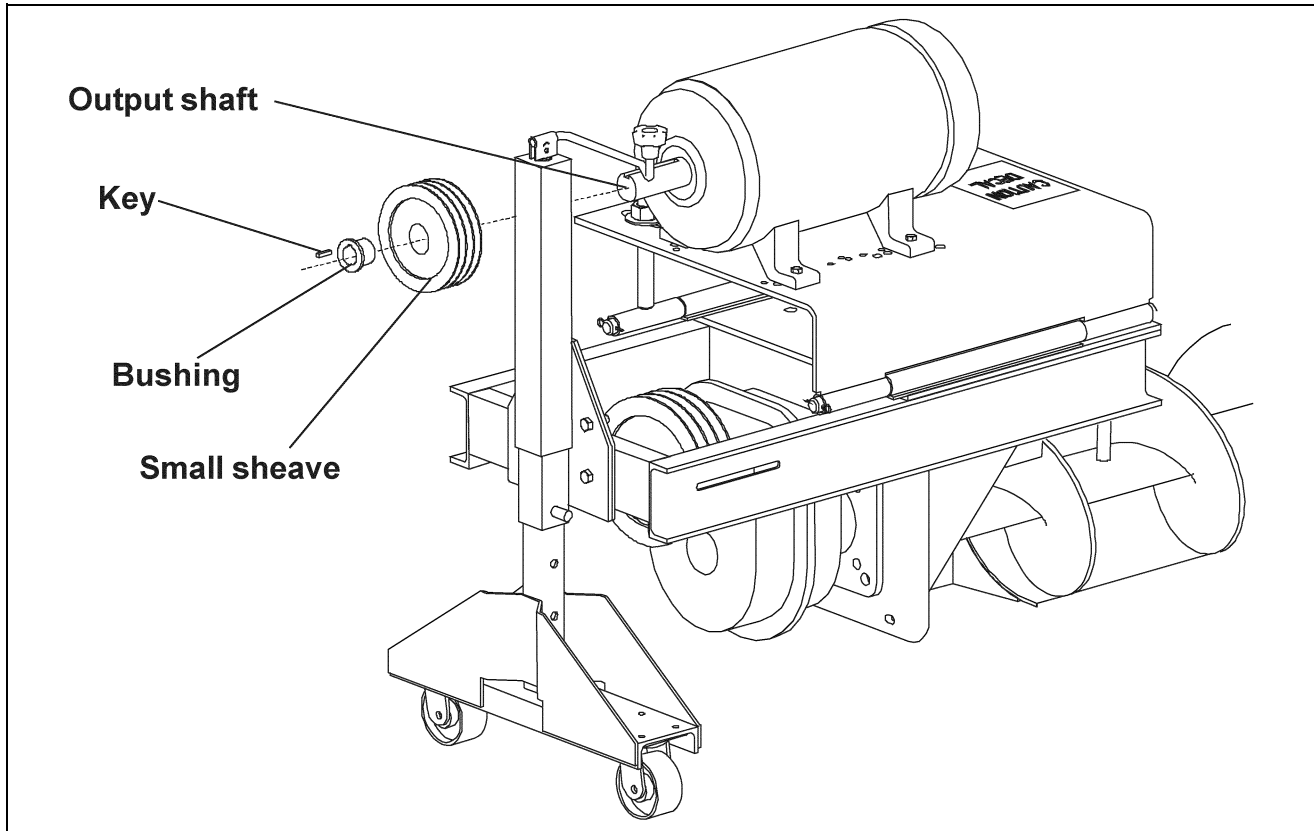

Figure 5Y
D. Slide the bushing and small sheave onto the motor shaft with a key. (See Figure 5Y)
E. Align the sheaves with a straight edge to assure proper alignment and tighten the screws on the bushings. (See Figure 5Y)